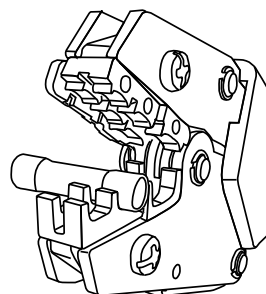

Figure 3
3. Splices require two crimps. Position the splice in the proper nest. As shown in Fig. 3.